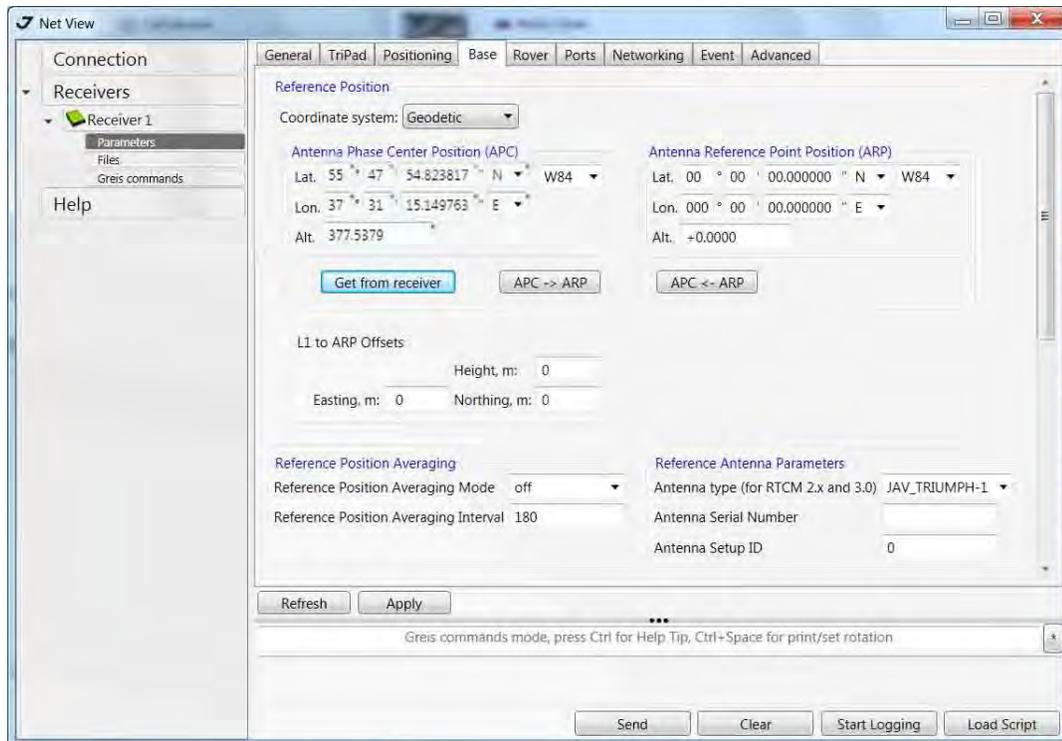

Figure 1-10. Base tab
- To set up the base station, open the *Base* tab and set the following parameters (see Figure 1-10 on page 23):